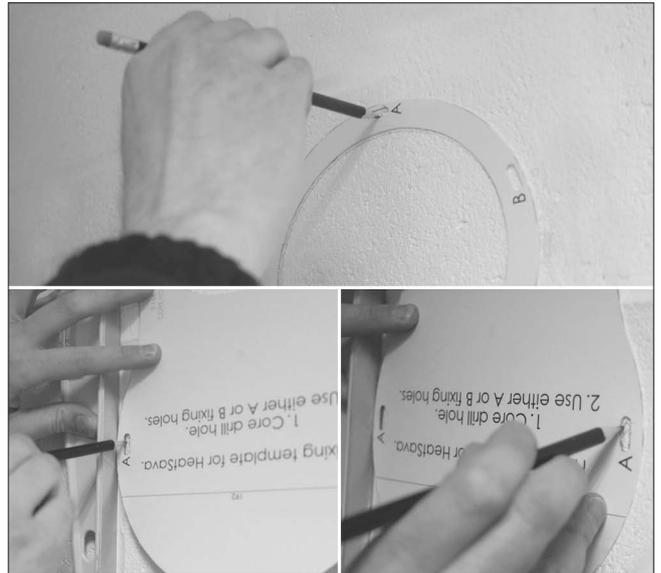

Fig.1B
- Mark out the locations for the 3 fixing holes. Use either A or B depending on how smooth the wall surface is (Fig 1B).